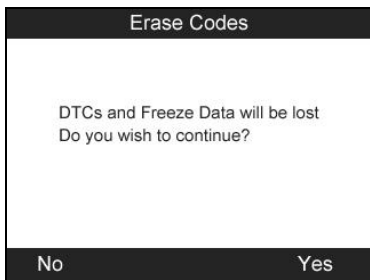

Figure 3.25
3. A confirm screen will prompt up to inquire further acknowledgment for data clearing, press the **Y** button to continue, otherwise press the **N** button to exit. (Figure 3.25)